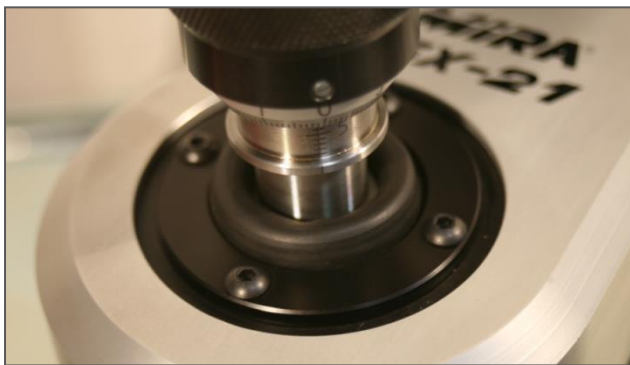

Fig. 20
16. Before clamping the pivot, have a look at the rubber cover for checking the raw centering of the pilot. The rubber cover should be even around the spindle guide like Fig. 20.